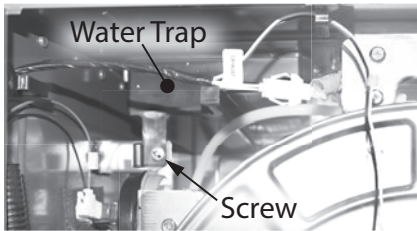

Figure 172 - Water trap location
- 4** Locate the air intake water trap on upper left side of the water heater. See Figure 172.